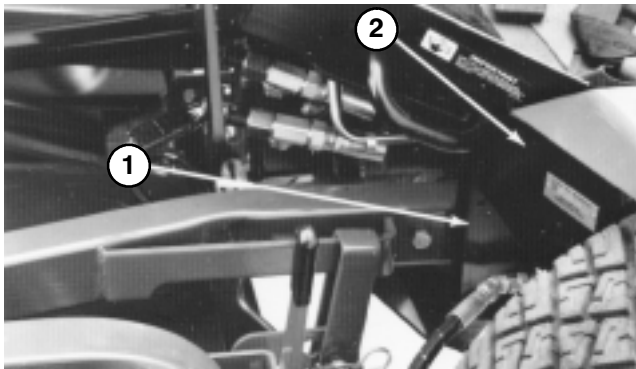

Figure 67
2. Disconnect (3) hydraulic lines (quick couplers) and wire harness at rear of deck.
4. Remove (2) capscrews and locknuts securing cutting unit carrier frames to traction unit lift arms (Fig. 67).